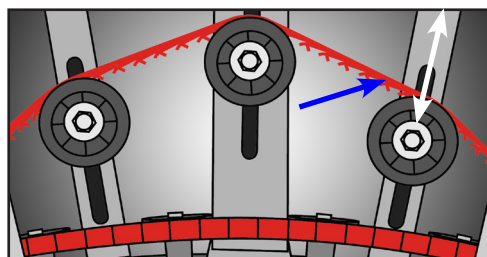

Fig. 13
- Due to the placement of the horizontal idlers in the take-up mechanism, PowerTwist Roller Drive may roll off the head or tail pulley. This can usually be alleviated by adjusting the problem pulley. In Fig. 13 the belt is rolling off the pulley to the right of the tensioning mechanism; adjusting the idler closest to the problem will correct the problem.